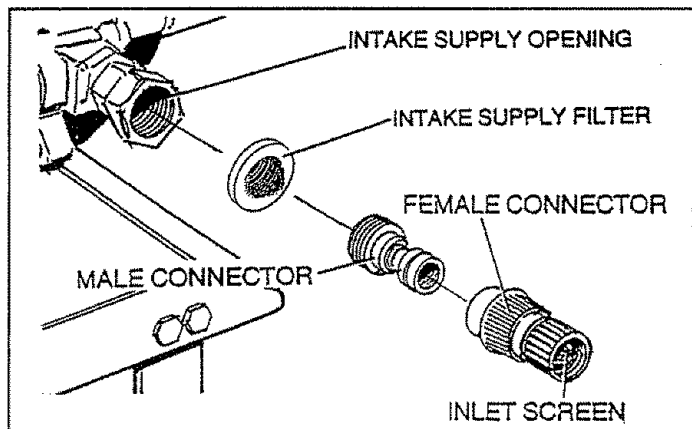

FIG. 5
- Included with this unit is a Quick-Connect fitting you attach to Water Inlet on pump. The quick-connect includes two parts — a Male Connector factory-installed on water inlet and a Female Connector (Fig. 5). Remove male connector to inspect Intake Supply